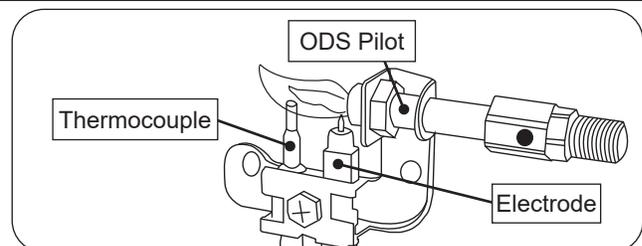

Fig. 28-2 ODS Pilot assembly detail
3. Locate the pilot assembly on the burner system (see Fig. 28-2).